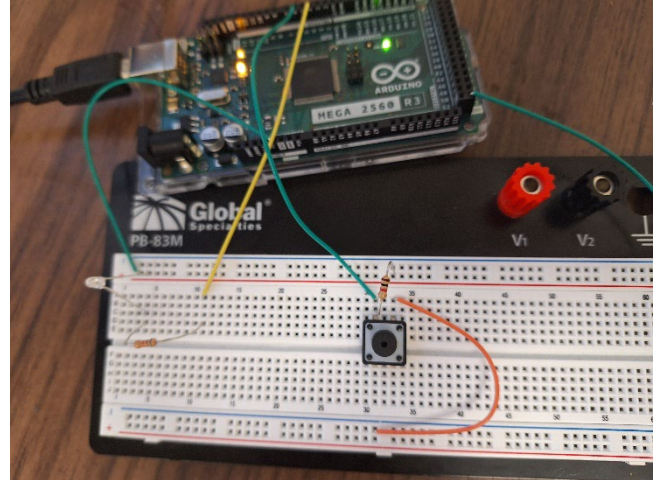

Figure 12: The breadboarded circuit using the pull up resistor. The LED from the previous section is still connected here can be ignored.
- Now, remember we want to use a pull-up resistor to make sure the input is never floating. The schematic for this circuit is shown in Figure 10 and the breadboard is shown in Figure 12.